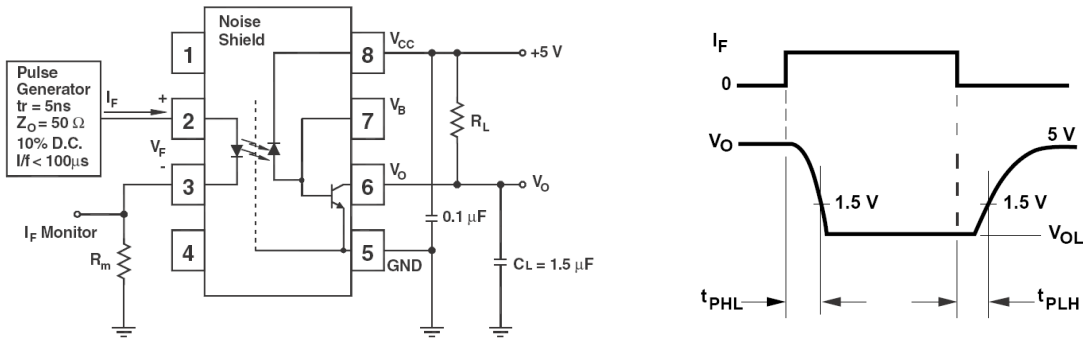

Figure 1: Single Channel Test Circuit for  $t_{PHL}$  and  $t_{PLH}$
1. A  $0.1\mu F$  or bigger bypass capacitor for  $V_{CC}$  is needed as shown in Fig.1